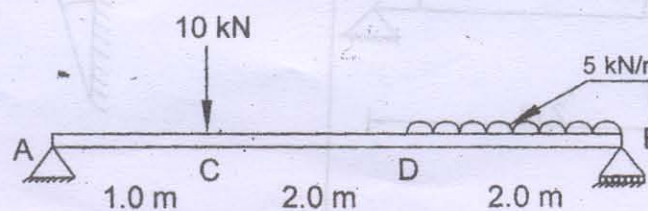

Fig. 13
- Que. 6.b Draw shear force and bending moment diagrams for a beam shown in Fig.13 indicating values at all important points. 07